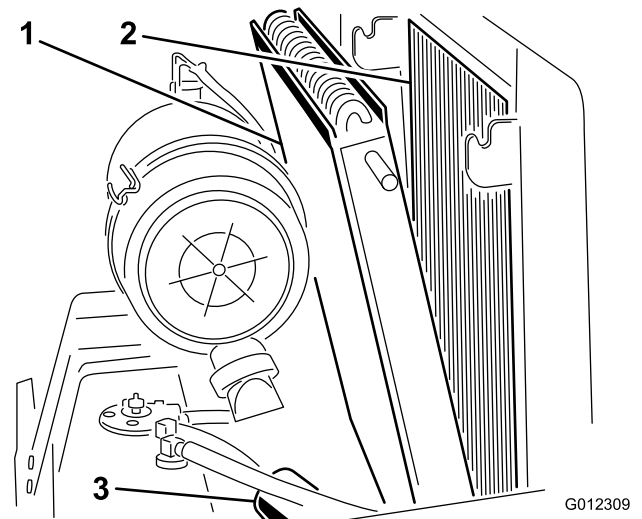

Figure 39
5. Lift up on the oil cooler handles and pivot it rearward in the mounting slot. Clean both sides of the oil cooler, radiator and rear engine area thoroughly with compressed air (Figure 39).